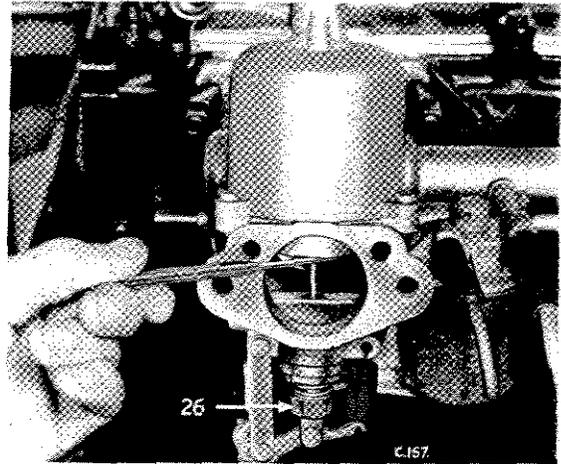

Fig. 8. Checking jet setting
If the suction piston is lifted by hand and released, it should fall freely and hit the inside "jet bridge" with a soft metallic click when the jet adjusting nut (26) (Fig. 8) is screwed to its topmost position.
1. Warm up the engine, remove air cleaners and disconnect choke cable. Slacken clamping bolts (82) on throttle spindle (81) and detach connecting rod (45). Ensure that the screw (77) is clear of its abutment during subsequent adjustments.
If the engine speed increases, the mixture is too rich and the nut (26) (Fig. 8) should be screwed up one flat. If the engine speed decreases unscrew nut (26) one flat.
7. Re-connect the choke controls and reset the screw (77) to give 0.062" (1.6 mm.) clearance between the end of the screw and rocker lever (70).